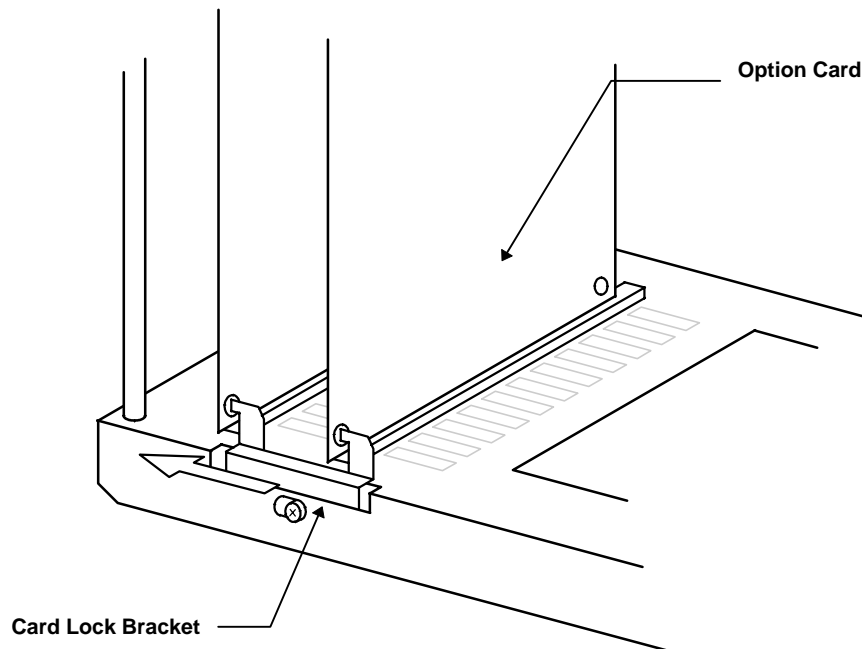

Figure 8. Card Lock Bracket
- Slide the card lock bracket into the bottom hole in the option card. Secure the bottom of the option card by tightening the card lock bracket screw (see Figure 8).